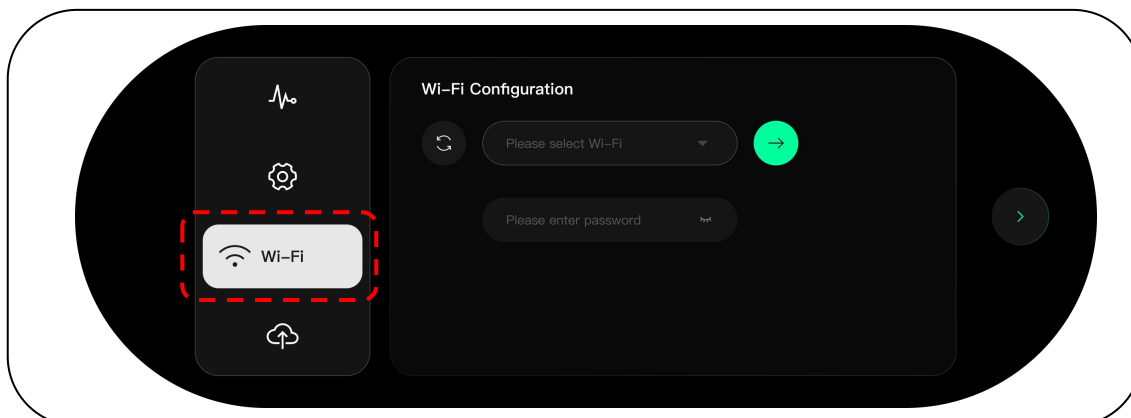

Figure 40
After the battery is successfully online, you can search for the battery in this interface as shown in the Fig 40.
- After completing the above steps, you can view the battery data in HanchuESS app, as shown in Fig. 40.